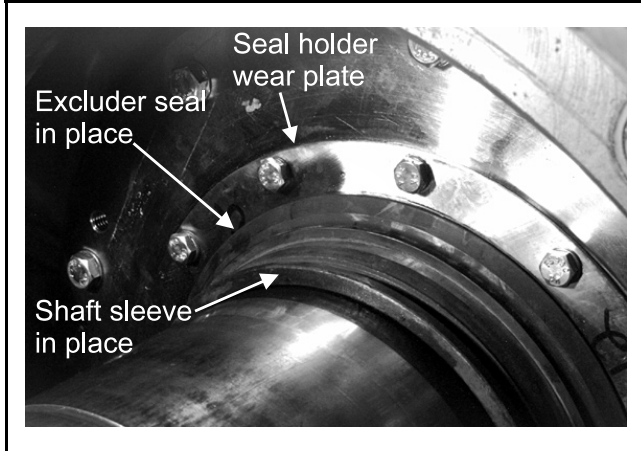

FIGURE 9 (MSSM0275AE)
1. With the hub supported in place by the *guide pins*, remove and discard the *excluder seal* (FIGURES 9 and 10).
1. Clean the bearing shaft. Install the *o-rings* (FIGURE 14) in the new *shaft sleeve*, and the new *water seals* in the *seal holder* (FIGURE 1). If installing a new seal holder wear plate (FIGURE 9), completely coat the underside of the new wear plate liberally with silicon or a similar type gasket material, to ensure that air from the injection system does not leak from the back of the wear plate. Coat the *o-rings* and *water seals* with grease.
2. Install the new *excluder seal* flush against the *seal holder* as shown in FIGURE 9. Using Loctite[®] 404 (or a similar cyanoacrylate based adhesive), tack the base of the *excluder seal* to the *shaft sleeve* in four places.